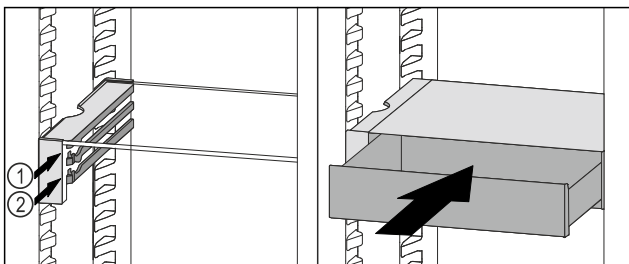

Fig. 122
- ▶ Place the VarioSafe drawer behind the stoppers on desired rib *Fig. 122 (1)* or *Fig. 122 (2)*.